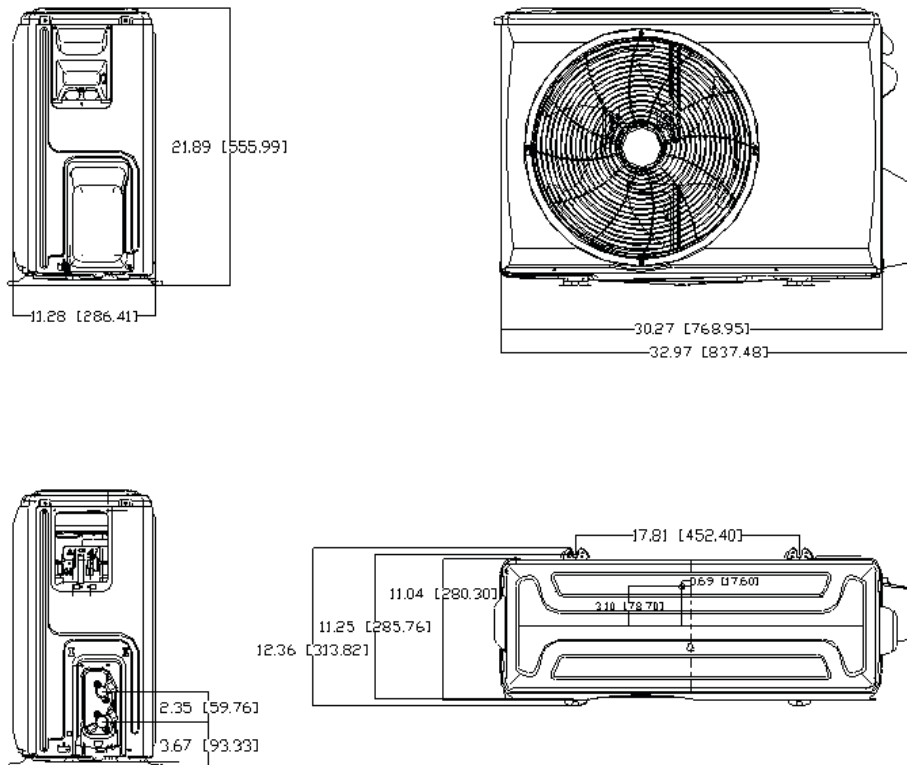

Fig. 3 — Sizes 12K (115V) and 6K (208/230V)
2. Use a rigid base to support the unit in a level position. If conditions or local codes require the unit be attached to a pad, tie down bolts should be used and fastened through knockouts provided in unit base pan. Refer to unit mounting pattern in Fig. 3 to determine base pan size and knockout hole location. For hurricane tie downs, contact distributor for details and PE (Professional Engineer) Certification, if required. For extreme outdoor conditions applications refer to the *Cold Climate Application Guideline Ductless* document.